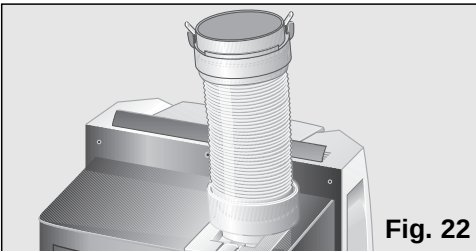

Fig. 22
- ❑ Remove the diffusion duct and set the air expulsion tube to the position shown in **fig 22**.